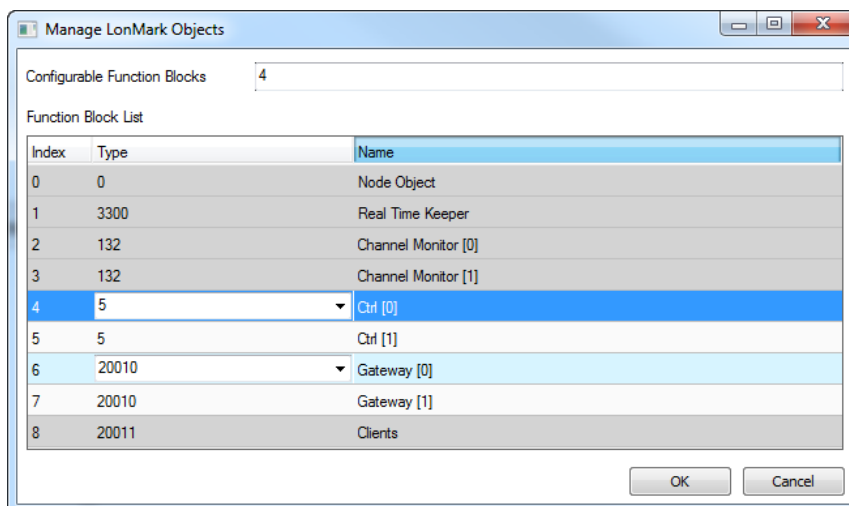

Figure 109: Manage LONMARK Objects.
1. Select the menu **Tools → Manage LonMark Objects ...**. The dialog **Manage LonMark Objects** as shown in Figure 109 appears.